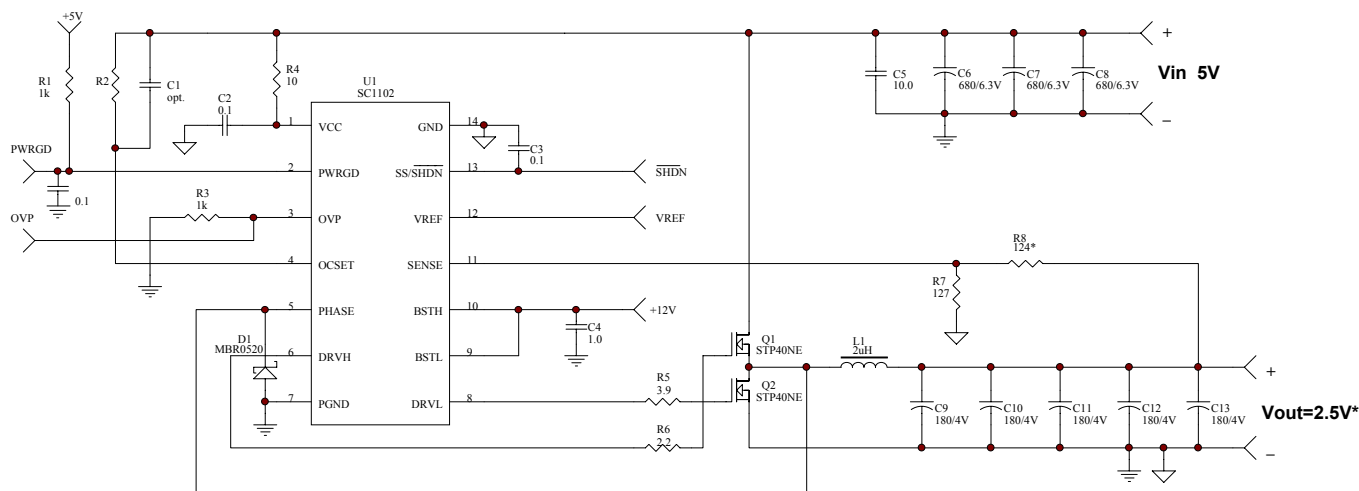

Figure 1.
- (1) Specification refers to application circuit (Figure 1).
- (2) This device is ESD sensitive. Use of standard ESD handling precautions is required.